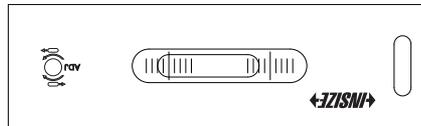

Fig.8
- c) Turn the level 180°, slide (not put) the level at the same position of the surface (Fig.8).